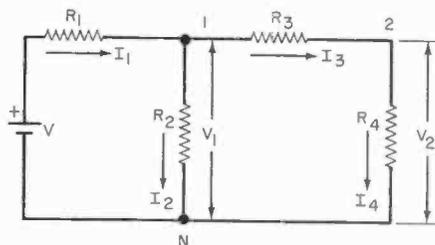

Fig. 10
**Ex. 11.** Referring to Fig. 10, write the necessary equations to solve for  $V_1$  and  $V_2$ . *Sol.* From Fig. 10,  $V_1$  is taken